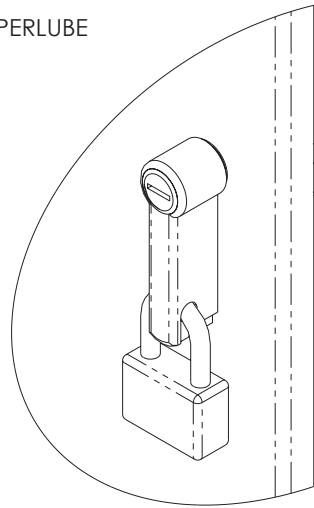

FIGURE 3
- To install padlock, push button upward on bottom of handle to allow the padlock shaft to pass through the handle as shown in figure 3.